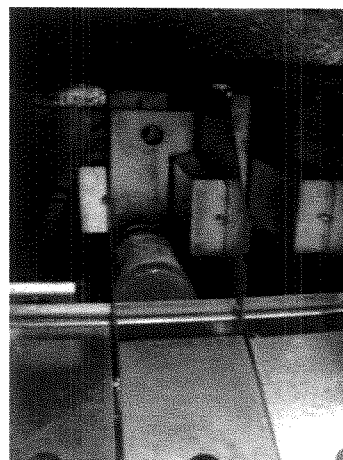

Figure 17 – Load the front section last
- d. Then close the divider and load the “front” section to full capacity (*reference figure 17*).